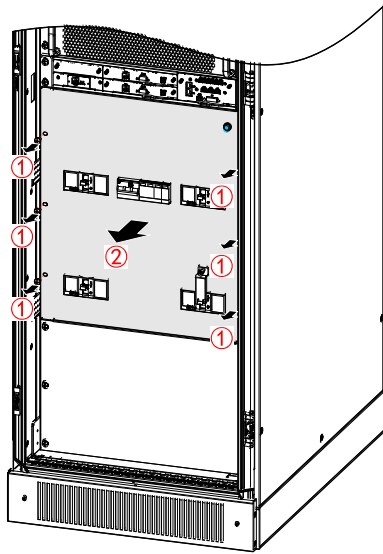

Figure3-18 Dismantle the surge protection device plate
Step 1 Dismantle the surge protection device plate, as shown in Figure3-18.